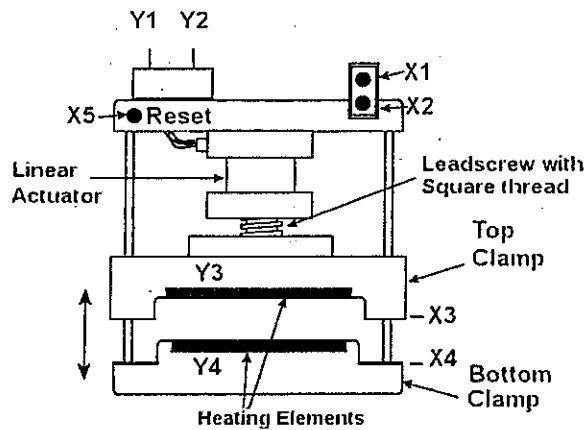

Figure 4: Heating press.
- 3(a) A design of an automatic heating press is shown in Figure 4. The function of the heating press is to automatically flatten warped 300mm vinyl discs.